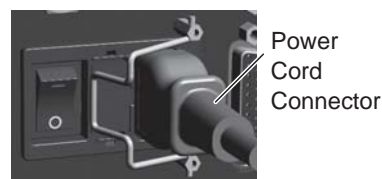

Fig. 10
- (2) Insert the female plug into the main power inlet box (Refer to Fig. 10).